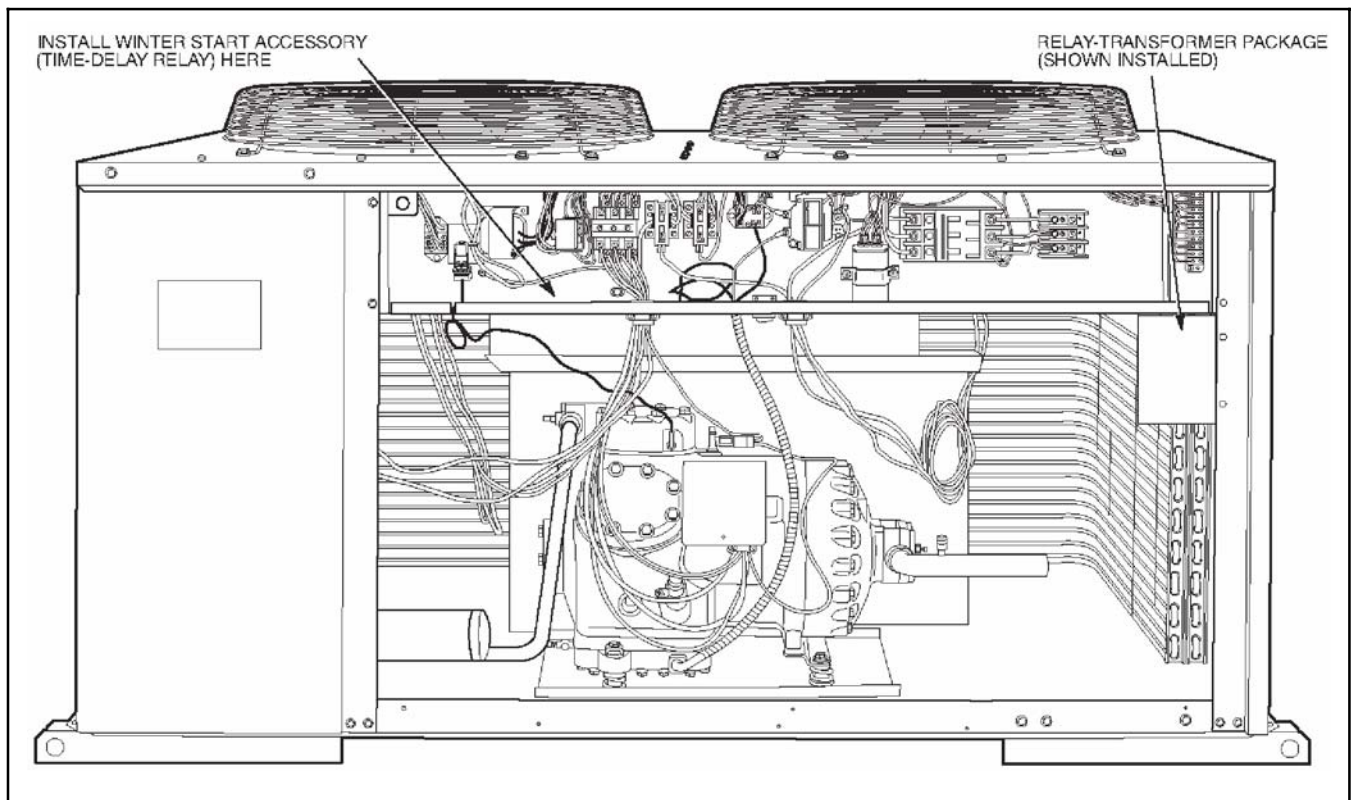

Fig. 1 - Recommended Locations for Accessory Components in 10 to 20 Ton Split System Condensing Units with Semi-Hermetic Compressors with R-22 Refrigerant
3. Secure side of accessory to condensing unit using 2 screws provided. (See Fig. 1.)
1. See Fig. 1 for location of Time-Delay Relay (TDR).